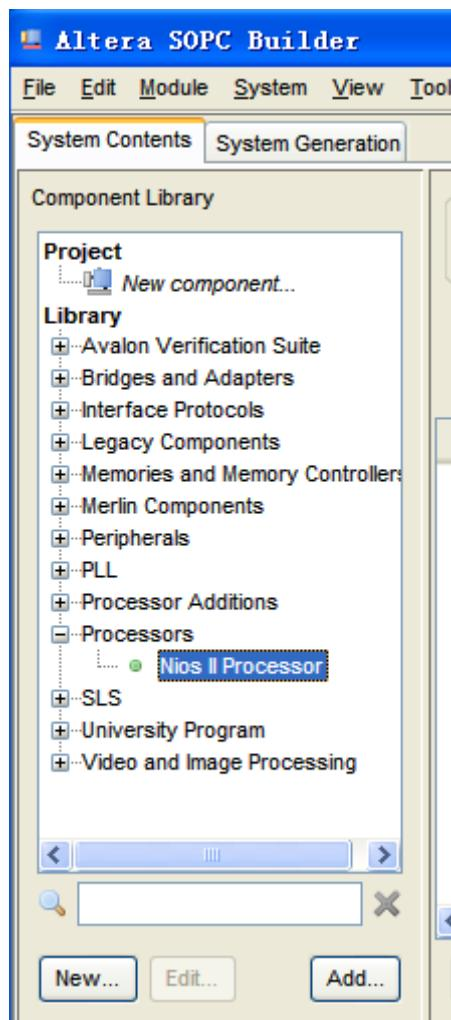

Figure 7-14 Add NIOS II Processor
8. In the left hand-side Component Library tree, select **Library > Processors > Nios II Processor** and click the **Add...** button to open the Nios II component wizard, as shown in **Figure 7-14** and **Figure 7-15**.